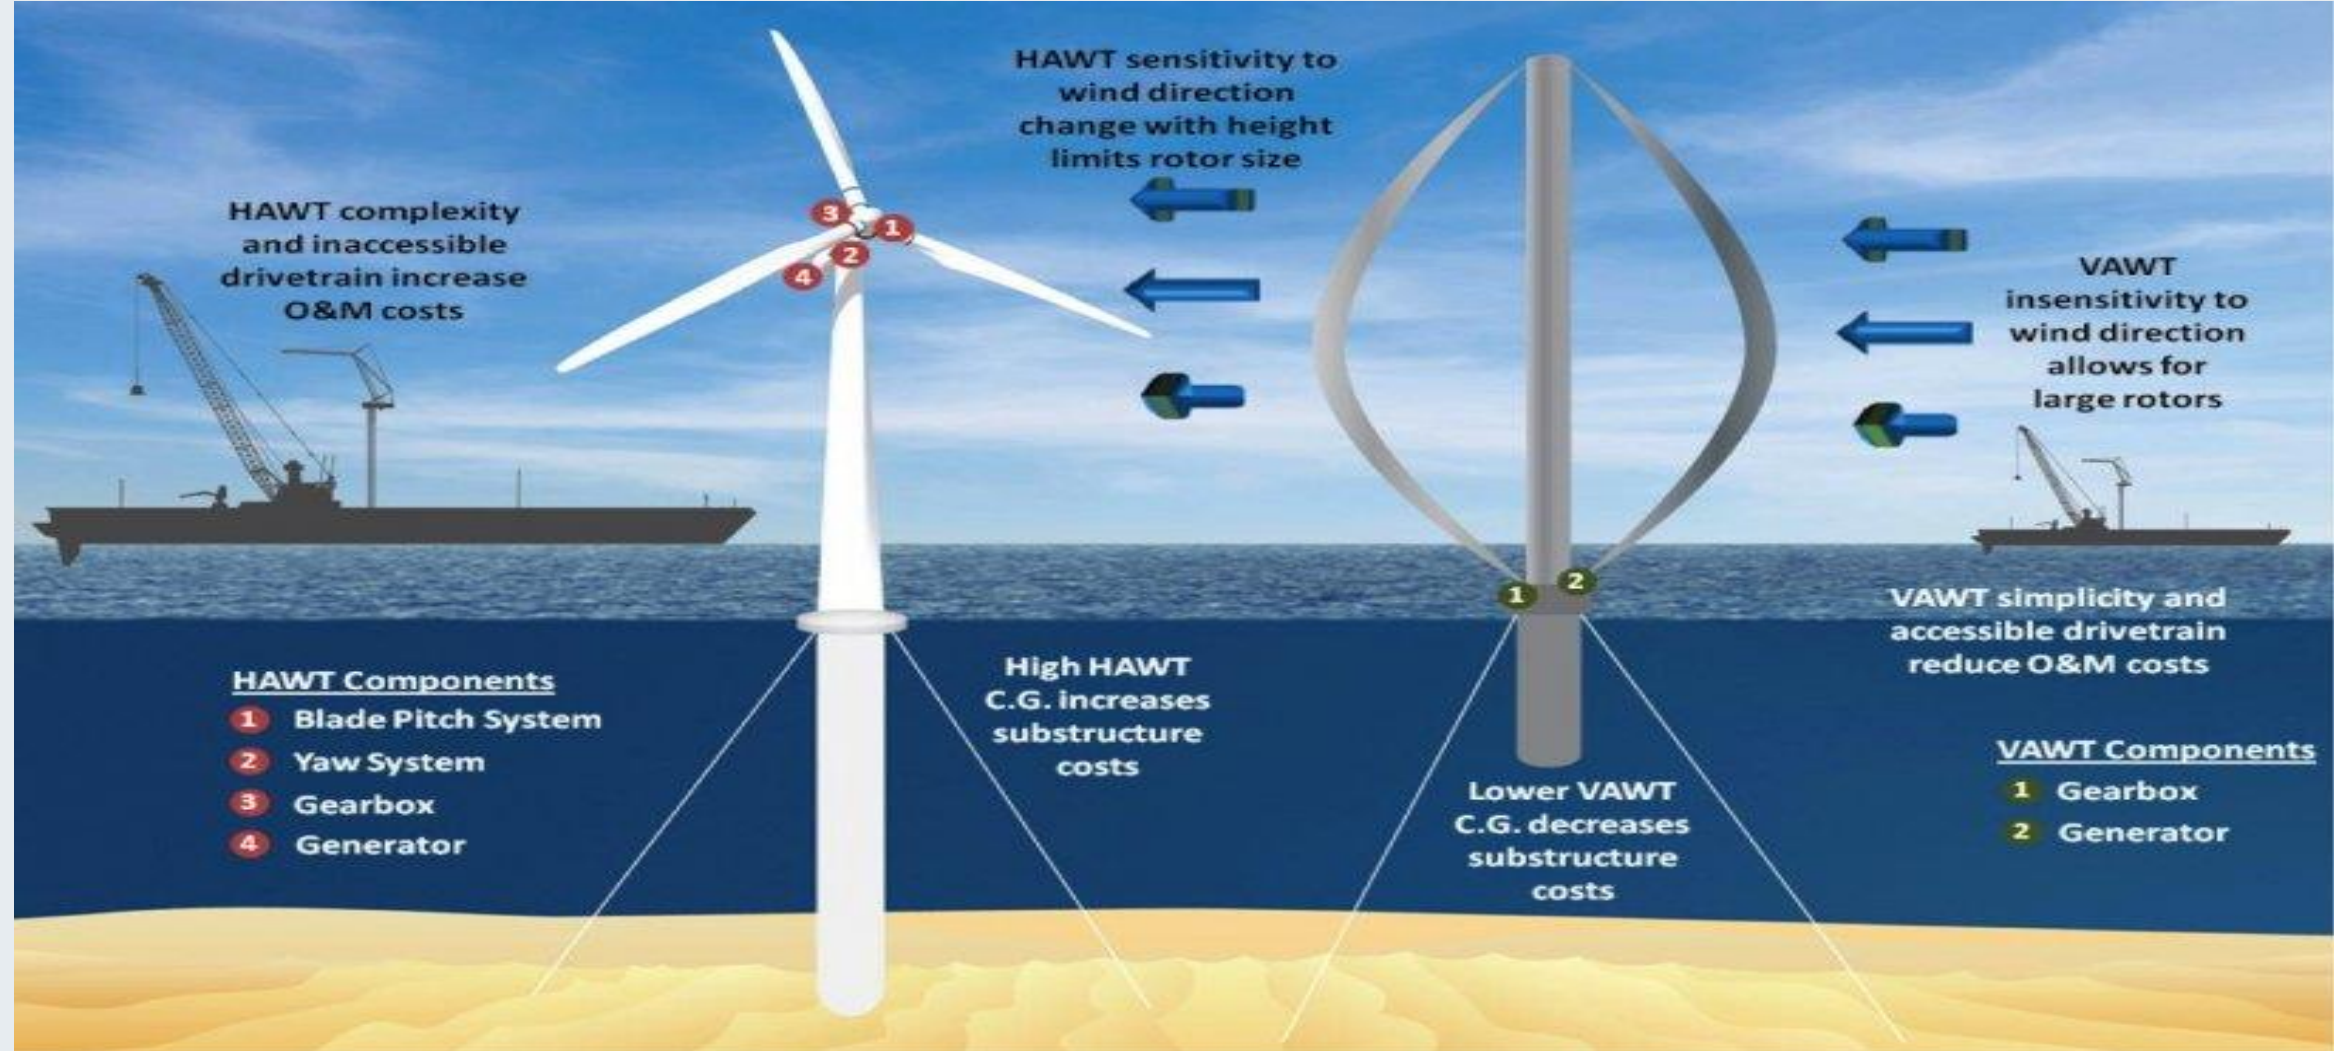

Figure 4. Types of wind Turbines. Source: [www. energy.gov](http://www.energy.gov)
- The overview of both VAWT and HAWT is presented in Fig.4